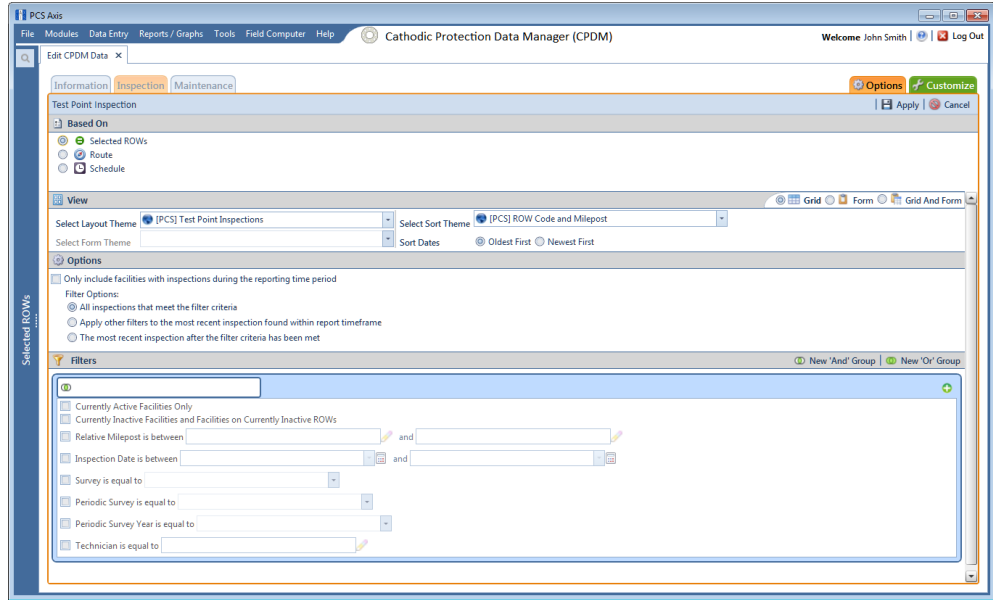

Figure 7-51. Options/Inspection Grid
- 3 Click the **Options** tab  to open the *Options* page (Figure 7-51).